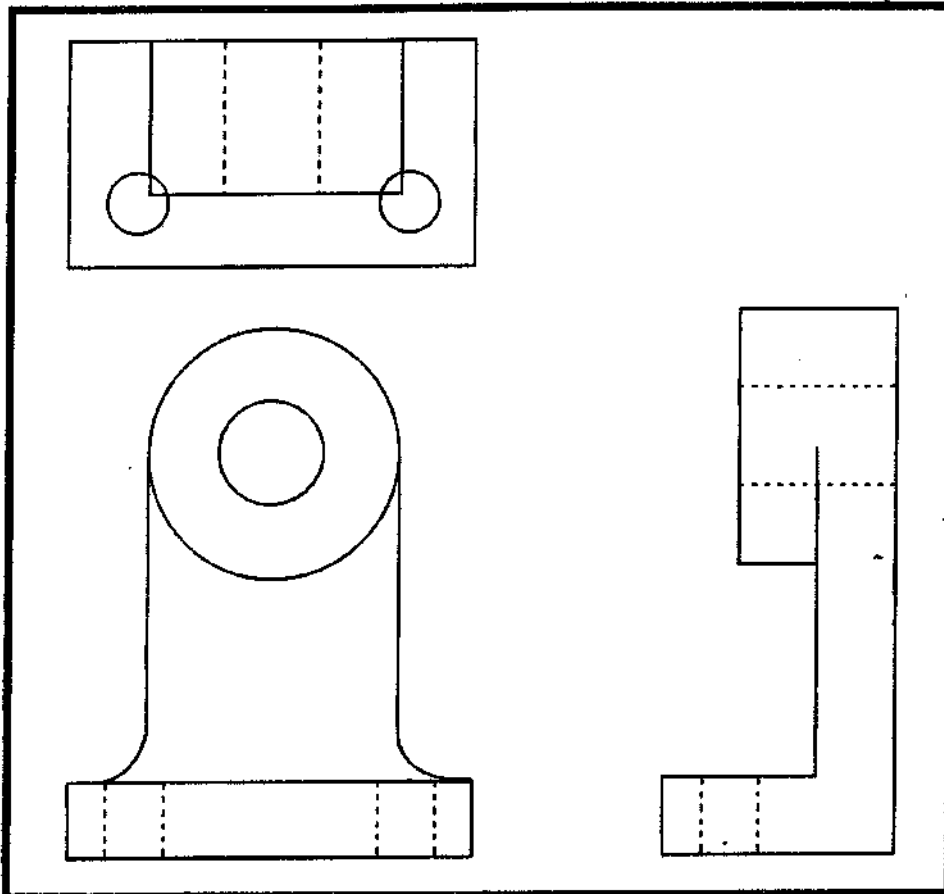

Fig.3.7. Sketches.
25. (Refer to figure 3.7) What is the next step required for a working sketch of the illustration ?